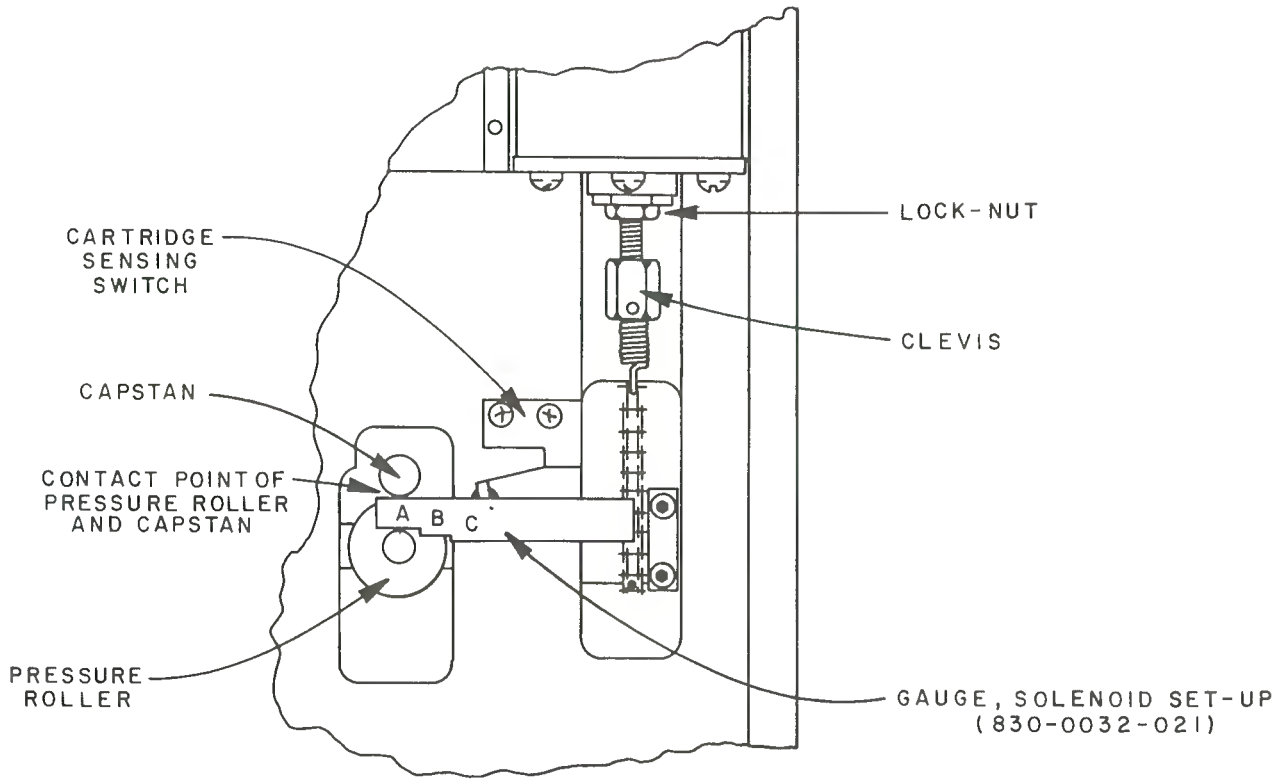

Figure 3-7
2. With the solenoid engaged (plunger bottomed) and pressure roller running on capstan, place gauge 830-0032-021 with "go" (1st step - Dimension A) end between pressure roller shaft and capstan shaft. (See Figure 3-7.)
3. The "no go" (2nd step - Dimension B) section (see Figure 3-7) should not slip through. If it does go, the plunger is to be rotated counter-clockwise until the "no go" (2nd step - Dimension B) will not slip through. If the "go" (1st step - Dimension A) end of the gauge will not slip through, the plunger is to be rotated clockwise until the "go" (1st step) end will slip through easily.